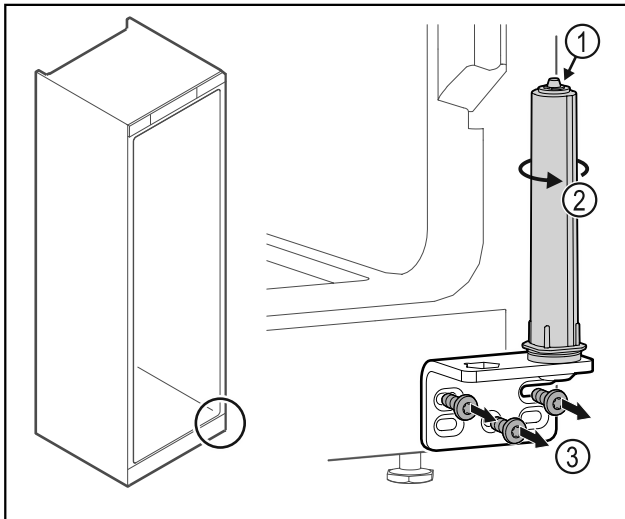

Fig. 49
- Do not disassemble the door closing system Fig. 49 (1).
- Turn the closing system Fig. 49 (2) until it clicks.
- Unscrew the hinge Fig. 49 (3).